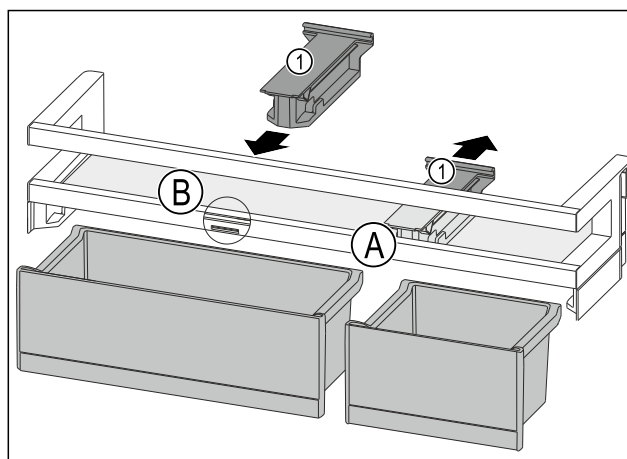

Fig. 109
- Take off the holding part Fig. 109 (1) in position Fig. 109 (A) backwards.
- Insert the holding part Fig. 109 (1) in position Fig. 109 (B).